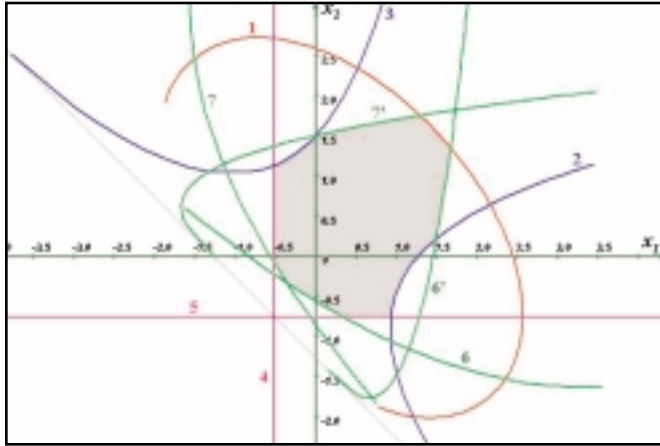

Figure 1—View of a blocking contour.
When intersecting with each other, these lines form a closed area on the coordinate plane. The point (x_1, x_2) for the pinion (x_1) and wheel (x_2) must be within this area, otherwise one or more of the gear operation criteria stated above will not be true. Figure 1 shows limiting lines in terms of undercut (straight lines 4 for a pinion and 5 for a wheel), interference (two lines for a pinion, 6 and 6', and two for a wheel, 7 and 7'), transverse contact ratio $\epsilon_\alpha = 1$ (line 1) and the sharp teeth of the pinion ($s_{a1} = 0$, line 2) and wheel ($s_{a2} = 0$, line 3). The area defined by these lines (the figure's shaded area) is the domain of coefficients x_1 and x_2 which meet the above criteria. This shaded area is bounded by parts of the abovementioned limiting lines 1–7'. These parts make up a closed line. This line is called a blocking contour (BC).